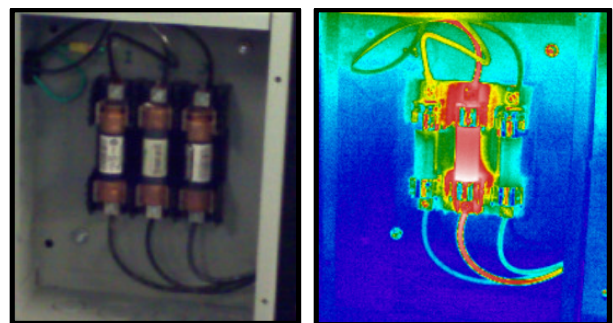

Figure 1: Dangerous condition in electric fuse
All objects on earth emit infrared (IR) radiation. Through the use of non-contact infrared cameras, a certified thermographer can detect and measure IR radiation emitted from a surface and measure surface temperature and thermal gradients. Figure 1 shows how thermal imagers easily detect important phenomena that the human eye cannot.